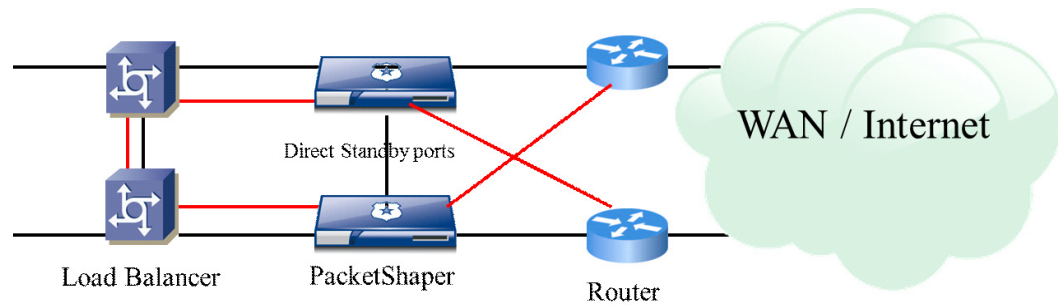

Figure 1-2 Load balancing topology
- ❑ Load-balancing topology (See Figure 1-2.)